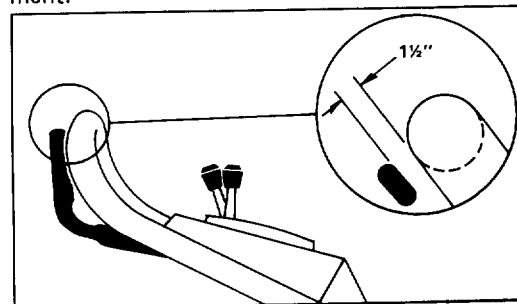

Figure 19
3. Lift control bar until some resistance is felt. Control bar should be 1/2" from handle when properly adjusted (Fig. 19).